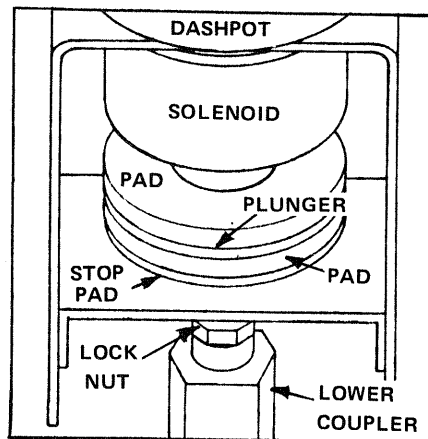

FIGURE 9-37 Lower Coupler adjustment parts.
- B. If you were unable to obtain the 1/32" free play in the Dowel by adjusting the Upper Coupler, adjust the Lower Coupler to obtain it. To adjust the Lower Coupler, loosen the Lock Nut above it, turn the Coupler approximately 1/8 turn CLOCKWISE, then press the SOFT Pedal again and recheck the free play. Readjust the Coupler as necessary until the 1/32" lost motion is obtained. See FIGURE 9-37. When the lost motion is correct, tighten the Lock Nut until it is finger tight. Proceed to STEP 9-67 below.